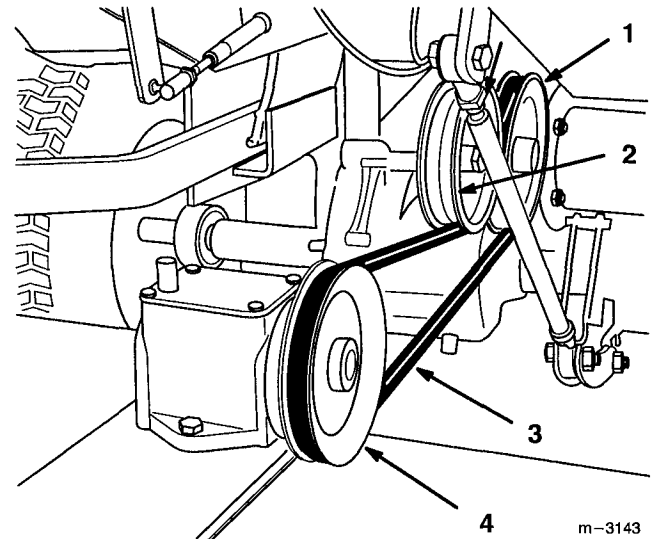

Figure 4
2. Install the drive belt around the drive pulley on the traction unit, lift up on the idler and place belt around gearbox pulley (Fig. 4).